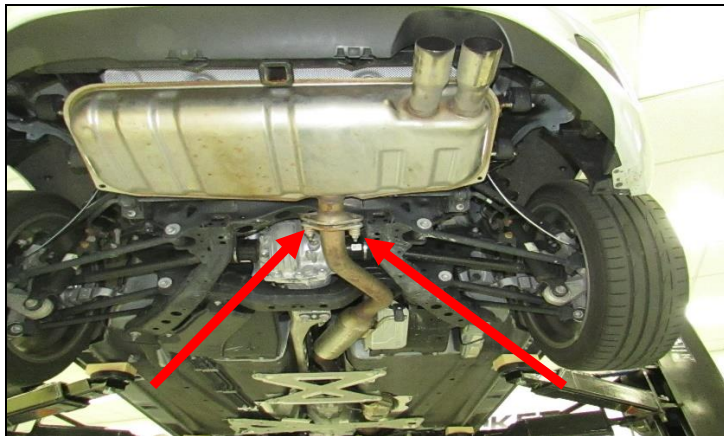

Figure 1
3. Start at the OEM muffler flange. Remove the (x2) 14mm head nuts and (x2) springs. Detach the OEM muffler flange from the resonator flange (**Figure 1**).